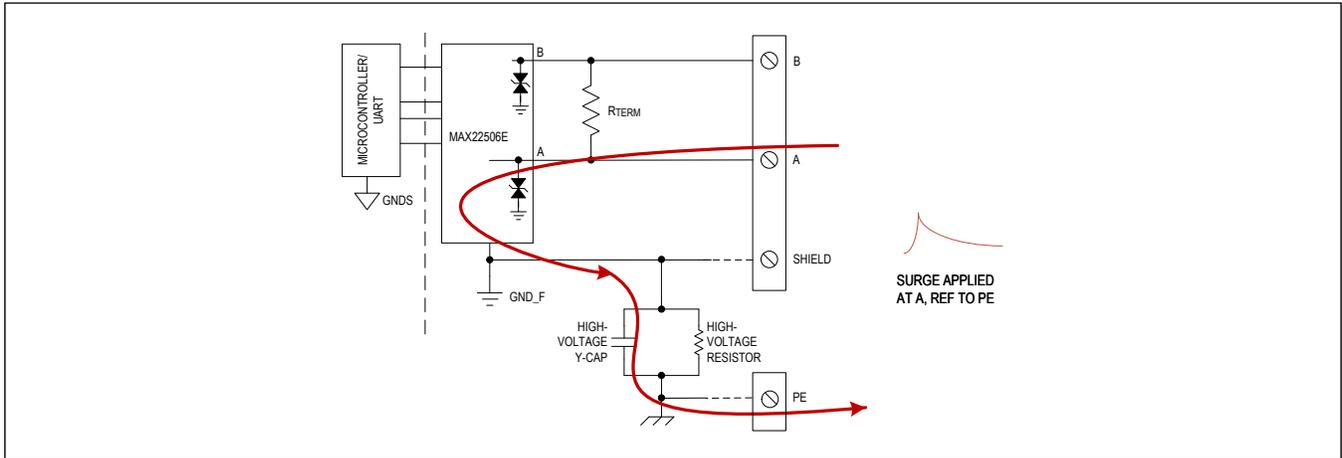

Figure 13. Surge Protection
Per the IEC 61000-4-5 standard, surge pulses must be referenced to protective earth (PE). Isolate PE from the field ground and connect a high-voltage capacitor and a high-voltage resistor between the field ground and PE. Figure 13 shows the current flow through the transceiver and PCB during a surge event. The MAX22506E survived 8/20 $\mu$ s surge testing up to  $\pm$ 2kV/42 $\Omega$  with a 1000pF high-voltage capacitor without the need for external TVS protection.